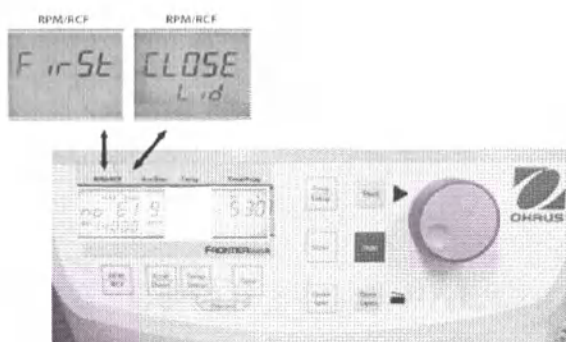
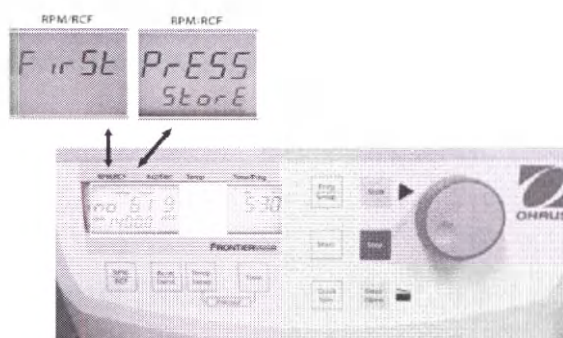

Fig. 23
Fig. 24
Close the centrifuge lid. Preset all centrifugation parameters, as described above. If the lid is not closed, when trying to save the program, the messages **FirSt** and **CLOSE Lid** (see Fig. 23) will be displayed on by one in the field **RPM/RCF** (A-1). When trying to start the centrifugation process without saving the program, the messages **FirSt** and **PrESS StoreE** (see Fig. 24) will be displayed on by one in the field **RPM/RCF** (A-1).
To save the program in the memory, press the key **Store** (12) (see Fig. 23 and 24) and hold it down for about 1 s. If the program is saved successfully, the message **StorE** will appear in the field **RPM/RCF** (A-1). The word **programm** (M10) will go off at the same time.